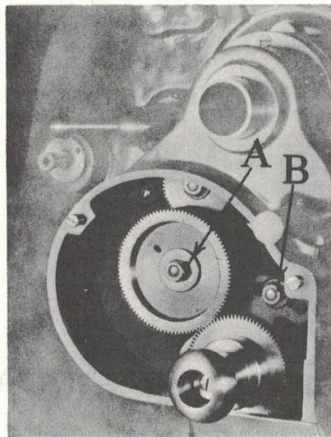

Fig. 7, Pick Off Gears
The pick-off gear cover should be removed and oil injected daily where marked. See Fig. 7. The sliding gear and the gear guard oil cup should receive attention daily with a good grade of machine oil.
To change pick-off gears, first remove (A) in Fig. 7. This allows both pick-off gears to be removed. Before replacing any gears loosen (B) to allow bracket to move freely. Adjust gears so there is a small amount of back-lash and tighten (B). Replace (A); oil where marked, and turn gear train by hand to be sure nothing binds.